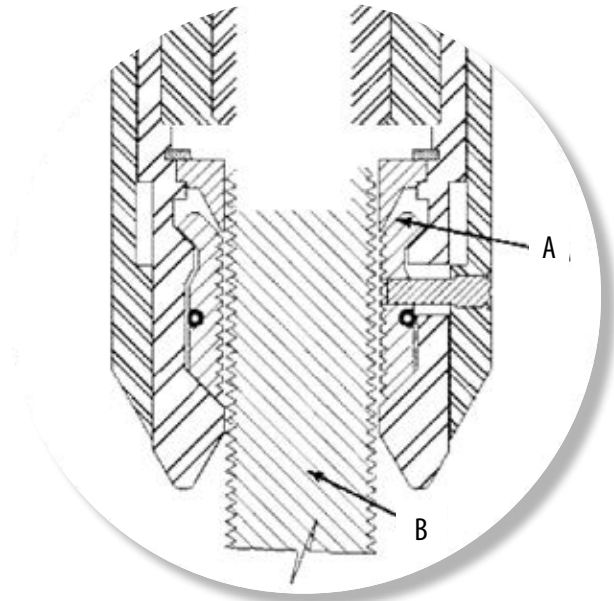

Figure 2
Figure 2 is a cross section of this connector with the female thread segments (A) in the open position and pushed over the male threaded rod (B).